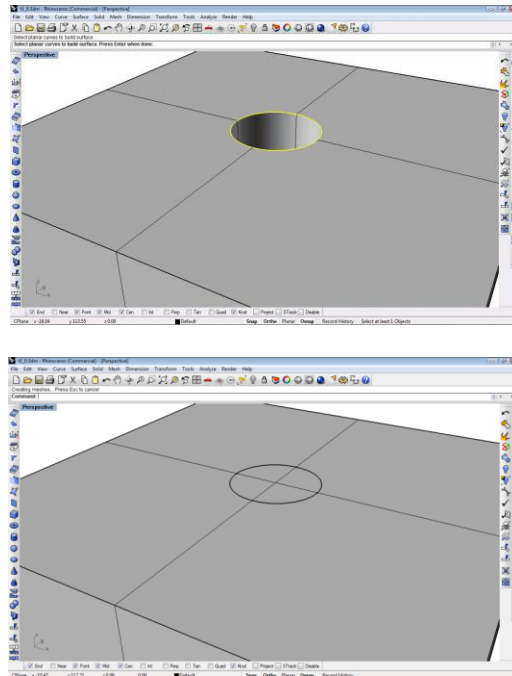

Figure 43: Highlighted curve representing the shaft rim (top) and the capped shaft (bottom)
12. Select the menu item **Surface | Planar Curves** and click on the circle representing the rim of the shaft opening (Figure 43). Press <ENTER> to complete the command and create a planar surface on the top of the shaft.